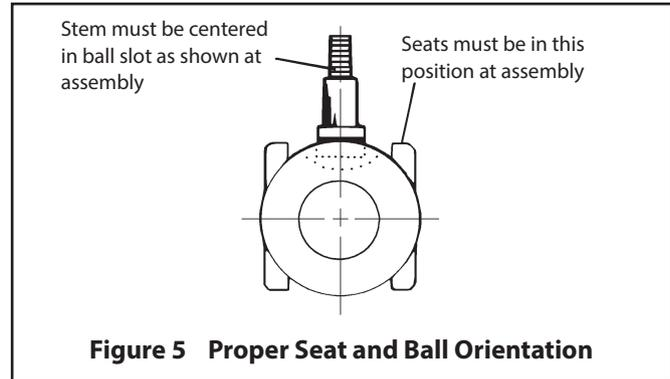
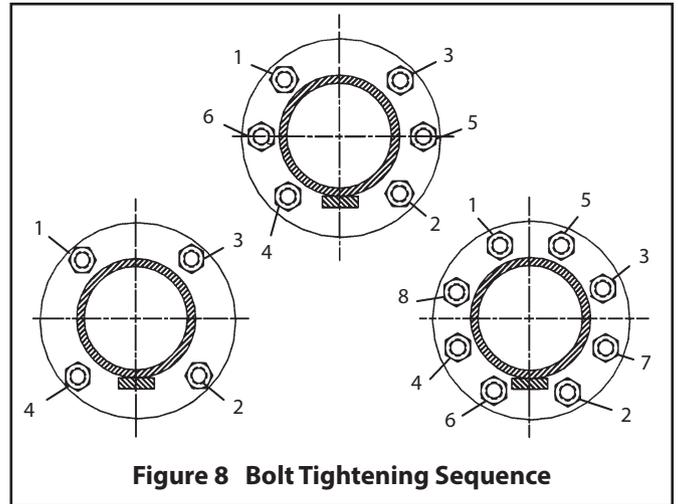

Figure 5 Proper Seat and Ball Orientation
Figure 8 Bolt Tightening Sequence
3. Carefully clean and polish the ball (3) sealing surface: It should be free of all scratches and grooves.
5. Slide one valve seat (7) sideways into the body (1) to below the stem bore, and tilt it into place so that the proper surface (see **Figure 5**) will be adjacent to the ball (3), being careful not to cut or scratch the seat.
12. Place the valve in a vertical position, body joint up, on a clean soft surface such as a folded rag or a piece of cardboard. Insert bottom grounding spring (36) into hole at the bottom of the stem (5). Insert the ball (3) rotating it onto the stem (5) in the closed position. If necessary, turn the stem blade to align with the ball slot. Make certain that the stem blade is in the middle of the ball slot; i.e. equal distance from the ends of the slot. Rotate the ball if necessary (see **Figure 5**).
13. Gently place the body gasket (65) into the machined recess of the body (1).
14. Place the remaining seat (7) on top of the ball.
15. Place the body cap (2) over body studs (12) being careful to properly orient body cap and body as originally assembled by matching orientation marks made prior to disassembly. Take care not to damage body gasket (65) or seat (7) during this operation.
16. Lubricate the threads and face of nuts (16) with Never-Seez® or equivalent. Install nuts (16) on body studs (12) and tighten sequentially as shown in the diagram (**Figure 8**), to the recommended torques as shown in the torque chart (**Table 2**).